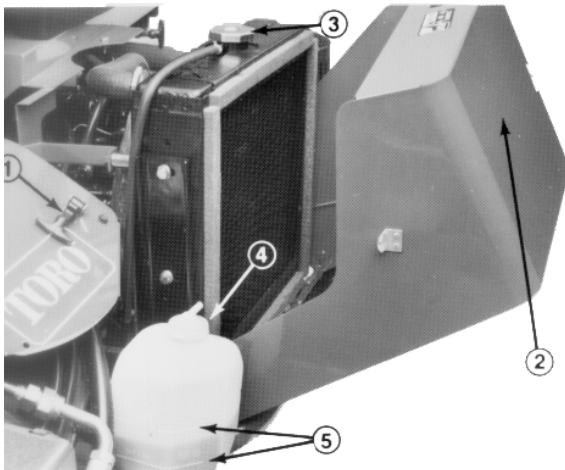

Figure 1
2. Remove the dipstick from the left front of the engine, wipe the end with a clean rag and insert it fully into the dipstick tube (Fig. 1). Remove the dipstick and check the oil level. If the oil level is low, go to step 3. If the oil level is up to the FULL mark on the dipstick, insert the dipstick and close and latch the hood. Continue with the pre-operat-
3. If the oil level is low, unscrew the oil fill cap from the top of the engine (Fig. 1). Add a small quantity of a high-quality SAE 30 or 10W-30 detergent oil having the American Petroleum Institute—API—”service classification” CD and recheck the dipstick level. Continue until the oil level is up to the FULL mark on the dipstick. Do not overfill.